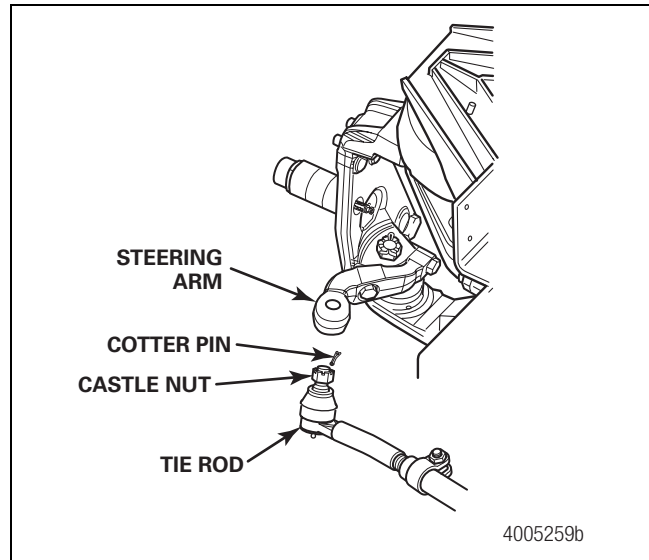

Figure 7.27
- Position the tie rod into the steering arm. Install the nut that secures the tie rod to the steering arm. Tighten the nut to 245-260 lb-ft (332-353 N·m). Continue tightening the nut to align the nut slot with the cotter pin hole. Do not back off the nut to align the nut slot with the cotter pin hole. Install the cotter pin. Figure 7.27.